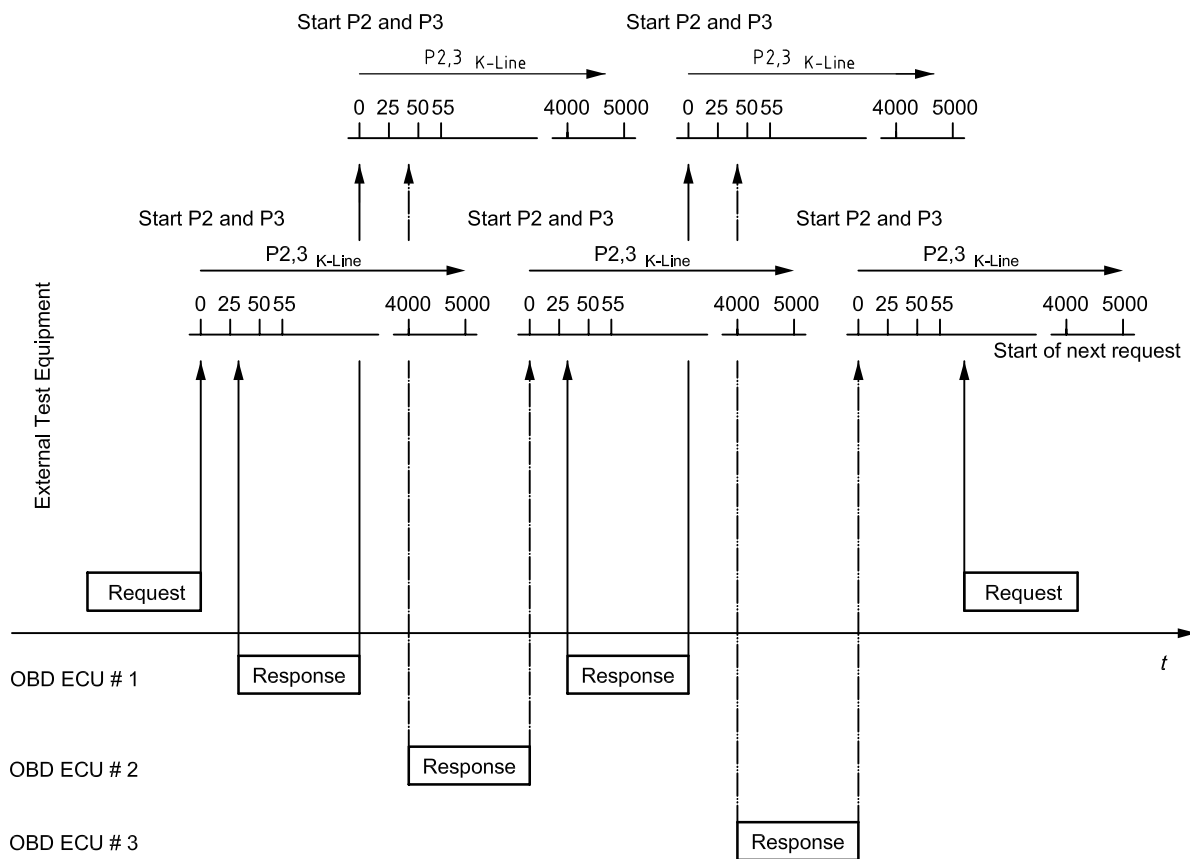

FIGURE 4 - ISO 9141-2 (KEY BYTES: \$08 \$08) AND ISO 14230-4 APPLICATION TIMING PARAMETER OVERVIEW
For ISO 14230-4 (K-line) interfaces, the required times between request messages are specified in ISO 14230-4. Figure 4 shows an example of a request message followed by four (4) response messages and another request message.